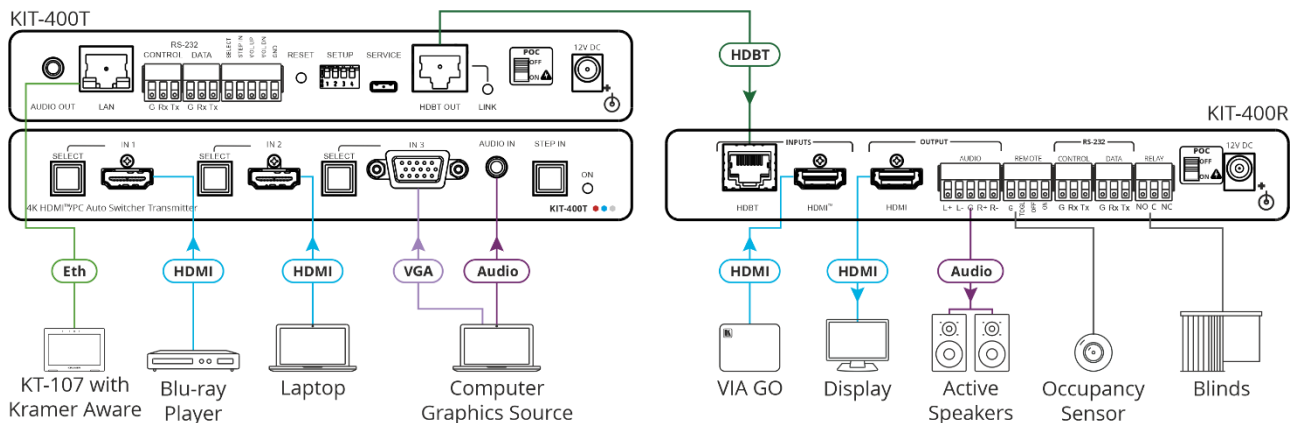

Figure 3: Connecting to the KIT-400
To connect KIT-400 as illustrated in the example in Figure 3:
12. Connect the power adapter to one of the devices (KIT-400T or KIT-400R) and to the mains electricity (not shown in Figure 3).